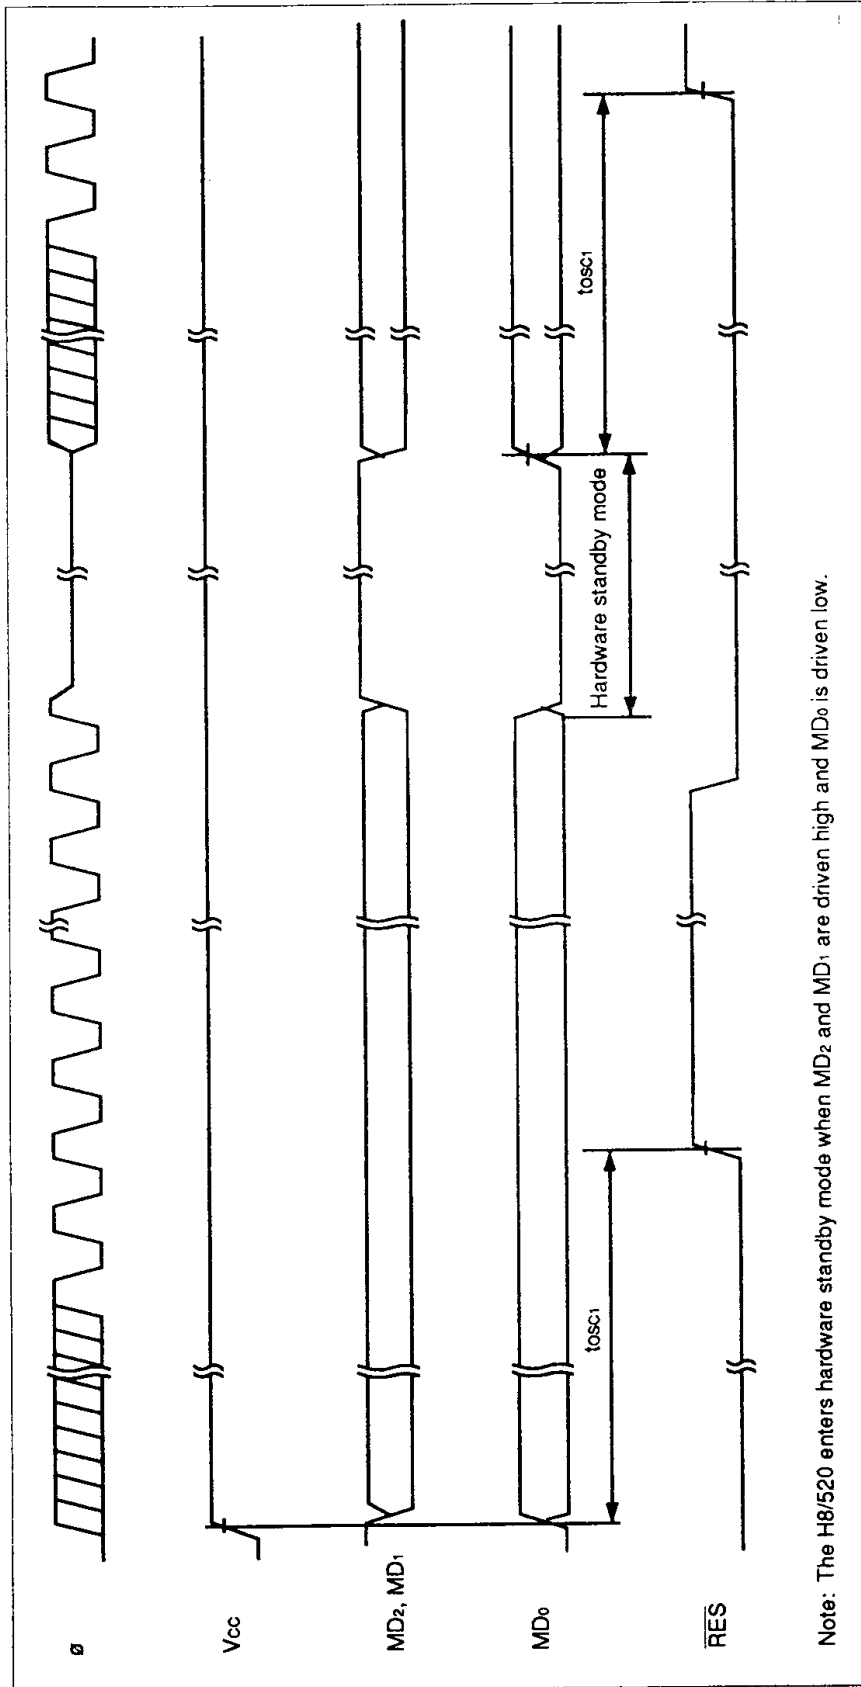

Figure 18-9 Clock Oscillator Stabilization
18.3.3 Clock Timing	Figure 18-9